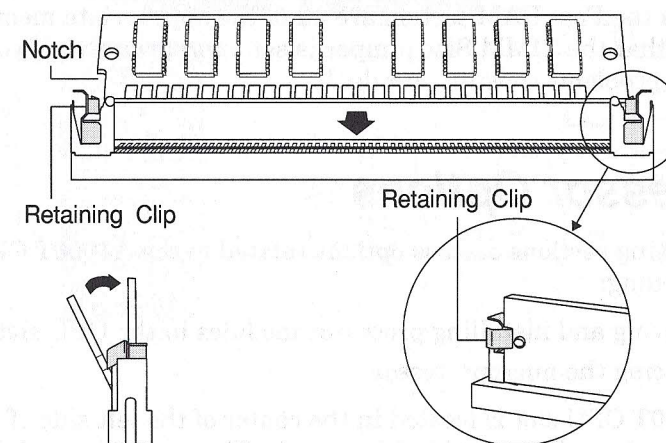

Figure 4-2. Inserting a SIMM into a Socket
5. Use the orientation notch on the SIMM module to line up the module at an angle in the retaining clip, as illustrated in Figure 4-2.